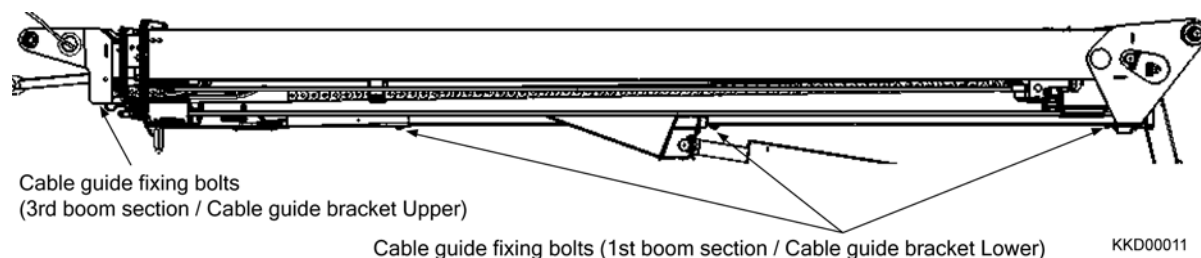

Fig. 2-40
- 15) Remove the cable guide fixing bolts. (Fig. 2-40)